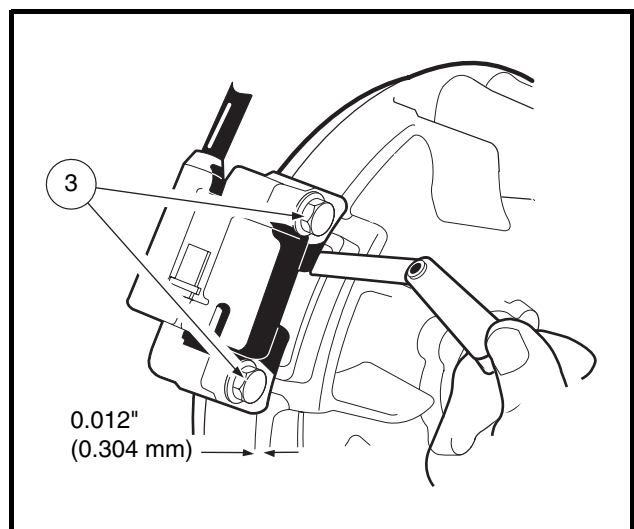

Figure 13-10 Adjust Ignition Coil Air Gap
2. While tightening the two bolts (3), use a bronze feeler gauge to adjust the ignition coil air gap to 0.012 inch (0.304 mm) (Figure 13-10, Page 13-7).